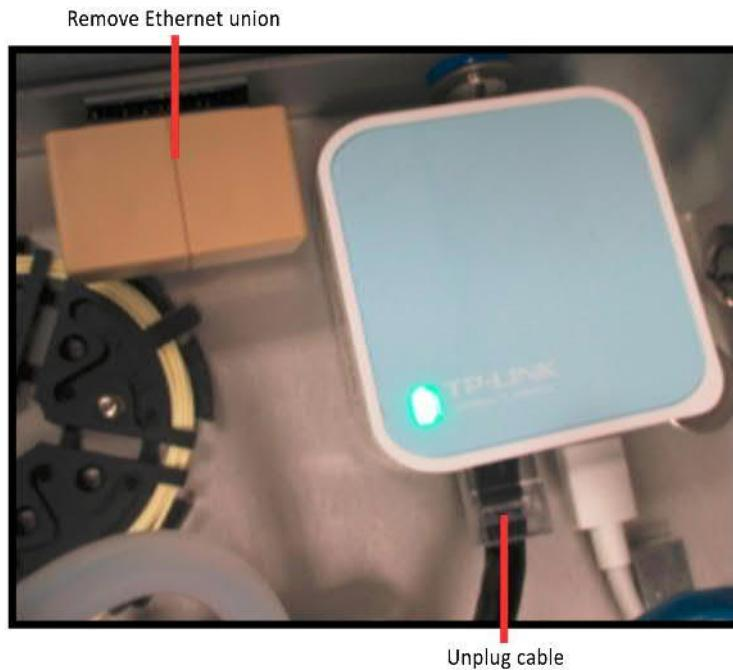

Figure 57: Unplug Cable and Remove Ethernet Union
1. Unplug the black cable from the router *LAN/WAN* port. (Figure 57)
2. Remove the Ethernet union (next to the router). (Figure 57)